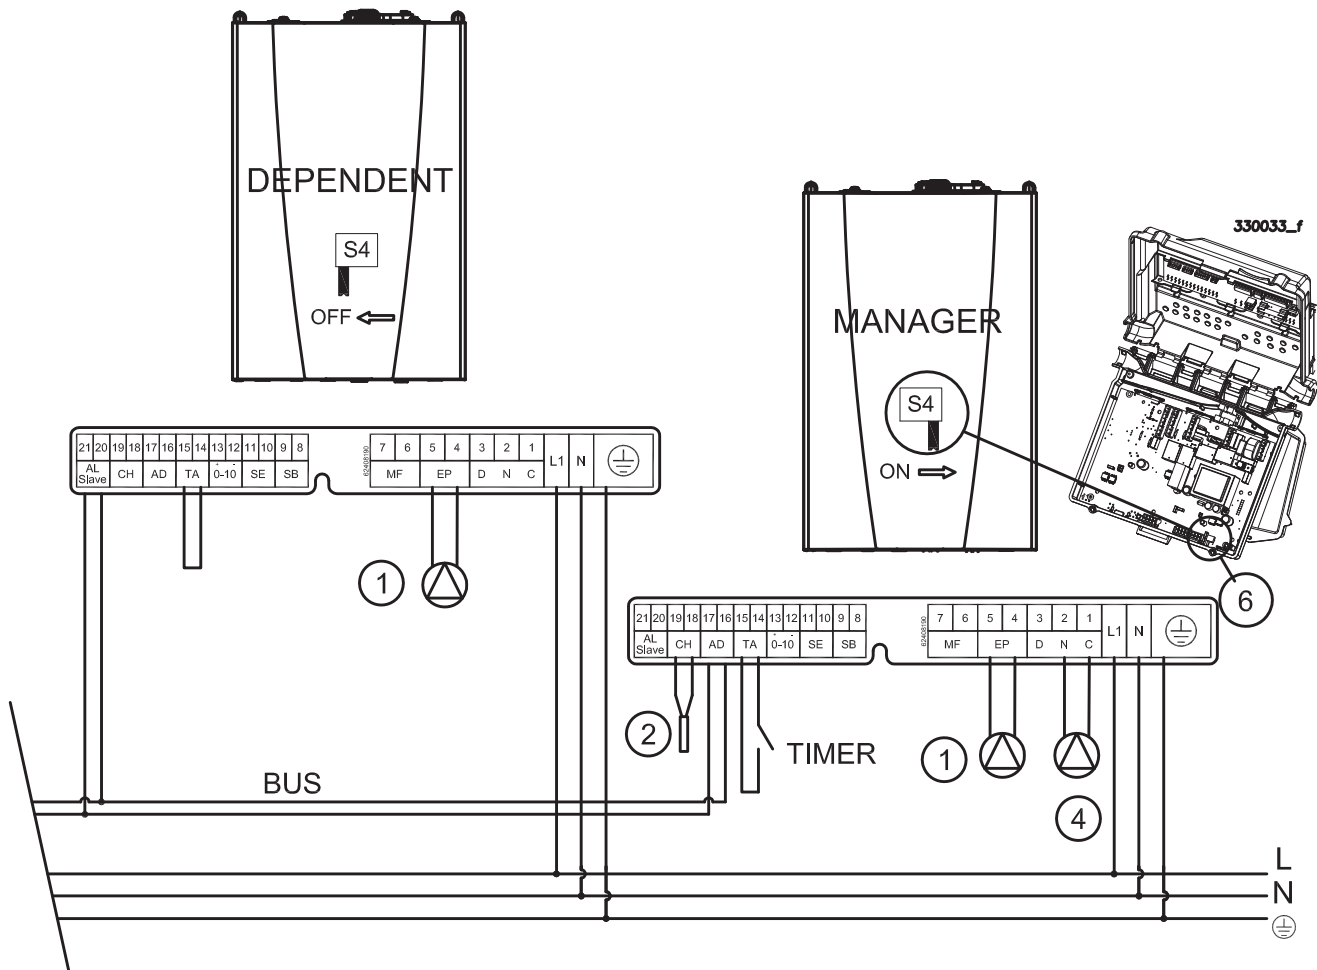

Figure 5-13 - Electrical connection of appliances in cascade without storage tank
- 3.- Perform the electrical installation as shown in Figure 5-13;
5.- Remaining on the "Manager" device, check that the "S4" Switch is in the ON position (See Figure 5-13);
7.- Remaining on the "Dependent" device, move the "S4" Switch in the OFF position (See Figure 5-13);